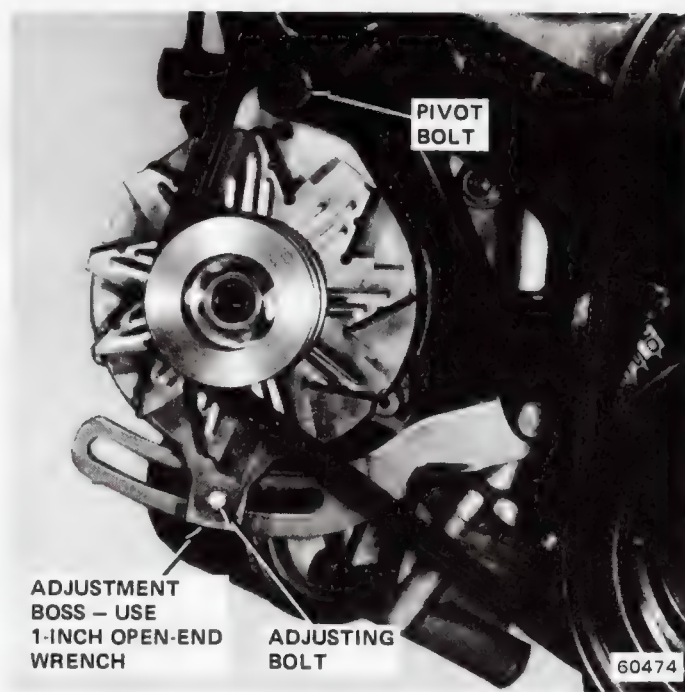

Fig. 1C-17 Alternator Adjustment—Eight-Cylinder
- (1) Loosen nuts retaining pump to mounting bracket (fig. 1C-18).
- (2) Use 1/2-inch ratchet in square hole in pivot bracket to apply tension.
- (3) Check tension and tighten retaining nuts.